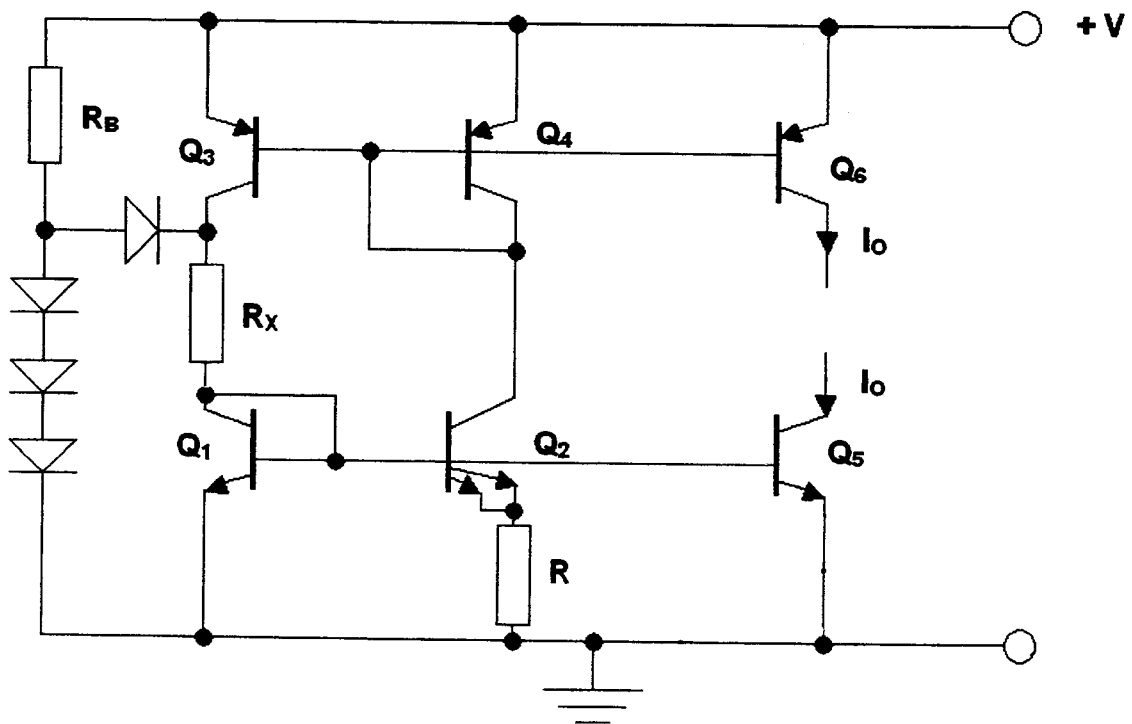

Figure 2.2
- (c) Calculate the fractional temperature coefficient for the constant current generator of Figure 2.2 at room temperature, given that  $R$  is a polysilicon resistor with a temperature coefficient of 1500 ppm/°C. [4]